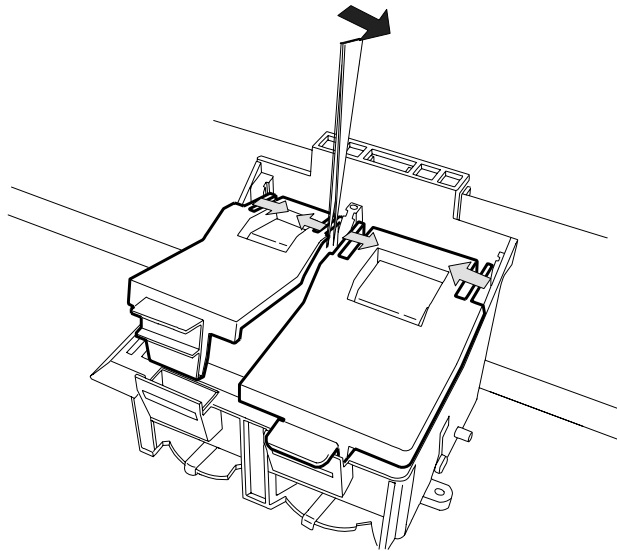

Figure 3-8. Cartridge Cover Removal
3. Using tweezers, release the ink cartridge covers from the pins fixing them to the CR assembly. Then remove the ink cartridge covers. (See Figure 3-8.)